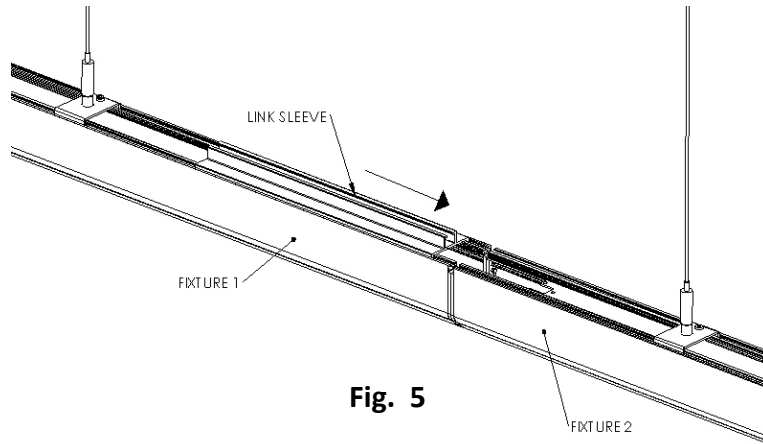

Fig. 5
6. Tuck harness into the fixture and slide the external sleeve from fixture 1 over to fixture 2. Ref (Fig. 5)